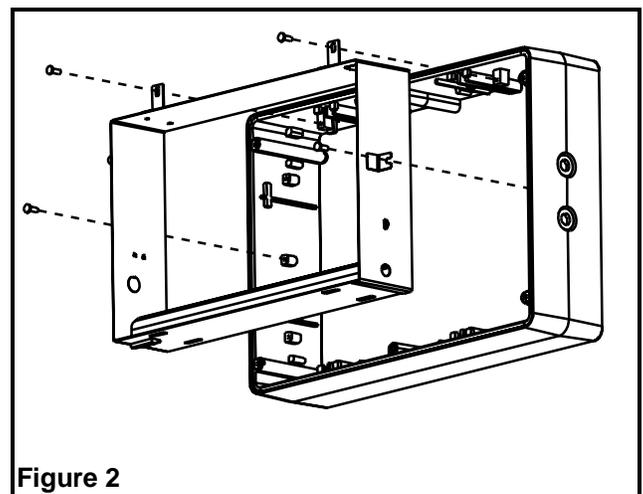

Figure 2
- d. In order to access the knockouts of the frame, remove the 4 screw(s) holding the frame insert to the frame and separate them (see Figure 2).